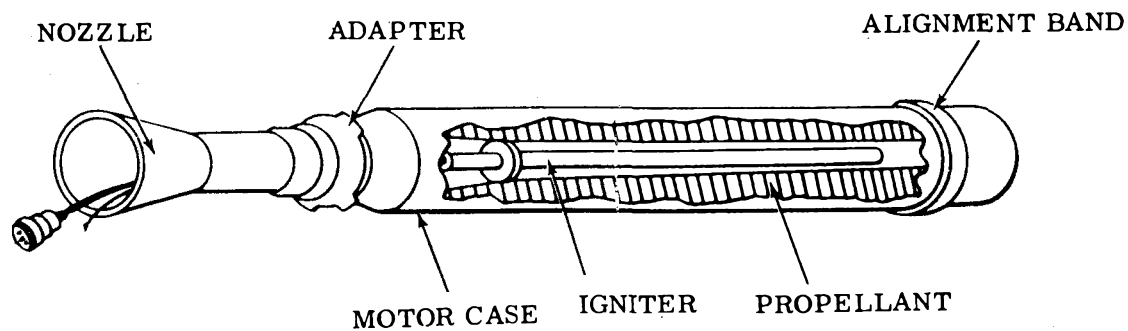

Figure 5-26. AIM-4 Rocket Motor and Igniter
- a. Rocket motor (reference figure 5-26).
- (1) Solid propellant.
- (2) Thirty one pounds, aft fuselage section.
- b. Igniter (reference figure 5-26).
- (1) Removable, flash powder type.
- (2) Two squib activation.
- (3) Access, aft section of motor.